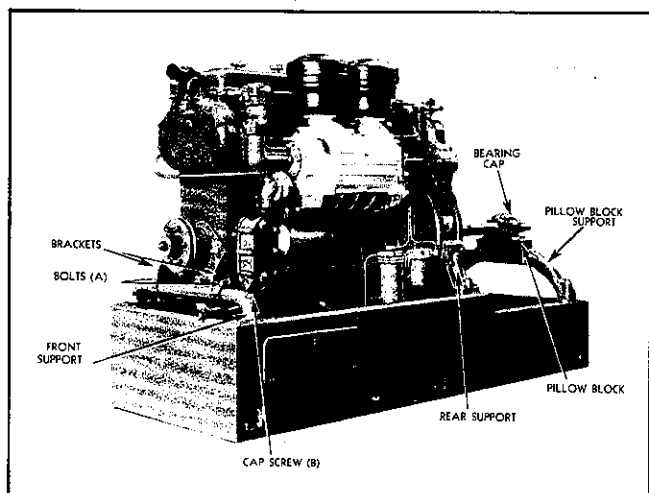
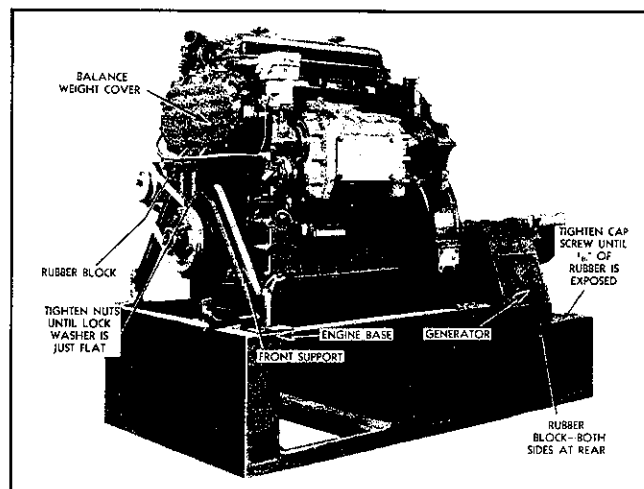

Fig. 1—Rigid Engine Mountings—Used with Power Take-off Units.
Fig. 2—Rubber Engine Mounting—Used with Generator Sets.
The front support for the rigid mounting is bolted either to the crankshaft front cover near each end of the cover, as shown in Fig. 1, or to a flange in connection with the balance weight cover. When the rigid mounting is bolted to the balance weight cover, the wishbone support is used, as shown in Fig. 2, and a solid block is substituted for the rubber block. Both outer ends of the front support are bolted to the engine base.
When rubber engine mountings are used, they are located as illustrated in Fig. 2.
The front support for rigid engine mounting may be loosened by removing the two through bolts (A) that attach the mounting brackets to the support, and the two cap screws "B" that attach the support to the engine base. After loosening the attaching bolts "A" and "B," and before attempting to remove the support, raise and block up the front end of the engine. (See Fig. 1.)